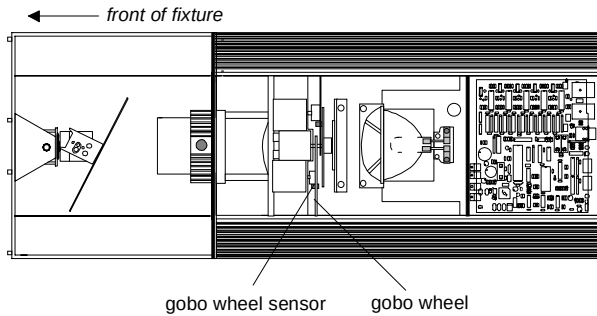

Figure 3-10. Gobo wheel and gobo wheel sensor location
4. Locate the gobo wheel and gobo wheel sensor (see Figure 3-10). Handle the gobo wheel carefully. If you accidentally bend the gobo wheel, it may rub against and damage the sensor. If the wheel is rubbing against the sensor or any other internal component, see "Adjusting Wheel Clearance" on page 3-12.
Note: If the custom gobo has letters or numbers, install the gobo so that the information is legible when looking at the gobo from the front of the fixture (see Figure 3-10).